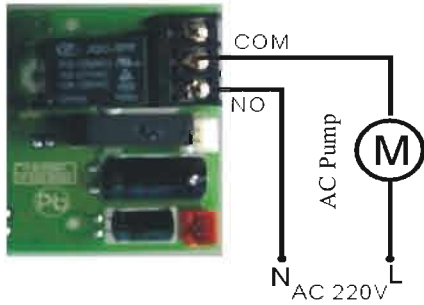
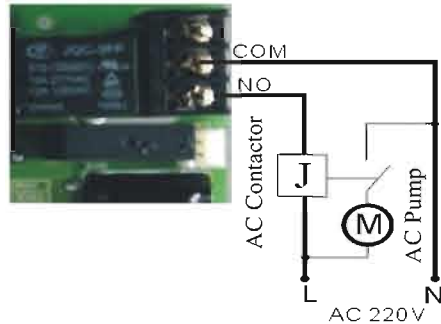

Figure 3-7 Wiring of Booster Pump on Inlet
Figure 3-8 Wiring of Booster Pump on Inlet
**Instruction:** If inlet water pressure is less than 0.15MPa, which makes rinse drawing difficult, a booster pump is suggested to be installed on inlet. Set Control mode as b-01. When system in regeneration cycle, booster pump is open, the wiring refers to Figure 3-7. If the booster pump current is bigger than 5A, system needs to install a contactor, the wiring refers to Figure3-8.